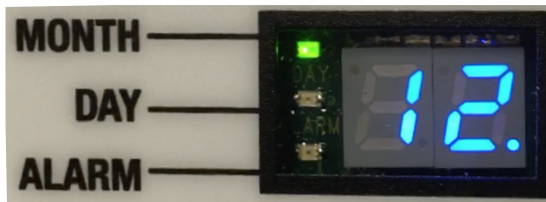

Fig. 3
- Green LED on, blinking decimal point to the right = System Check OK, U.V. System is operational. (**Fig. 3**)